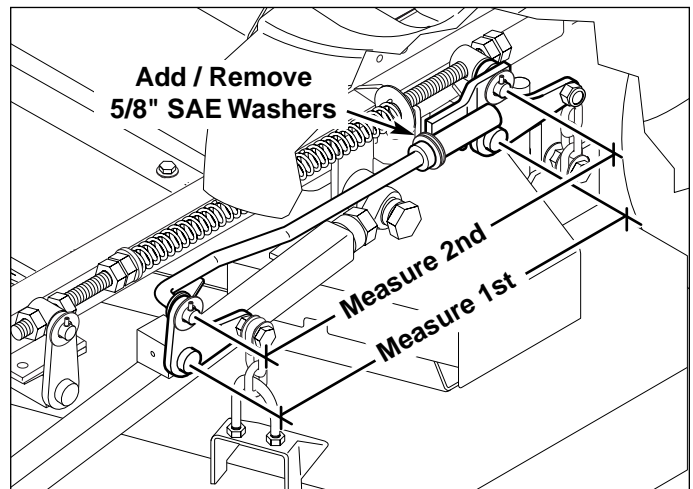

Figure 32. Lift Rod Adjustment
6. See Figure 32. Measure the distance between the rear lift pivots and the suspension-mounted lift pivots. Add or remove 5/8" SAE washers from in between the deck lift rod and the offset link until measurements are equal.